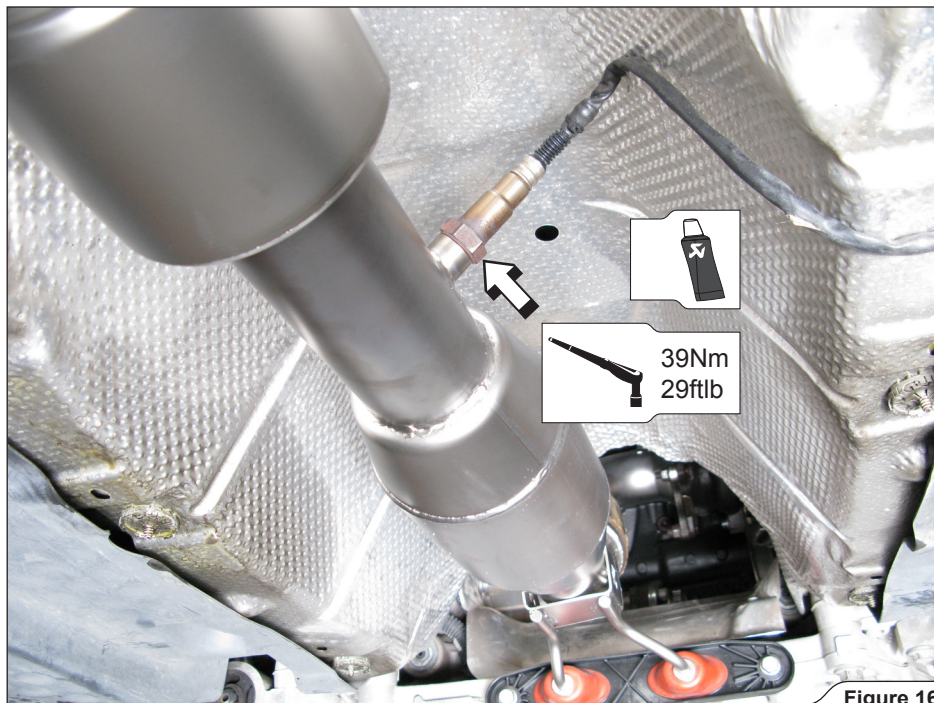

Figure 16
4. Screw the rear lambda sensor (**Figure 16**).